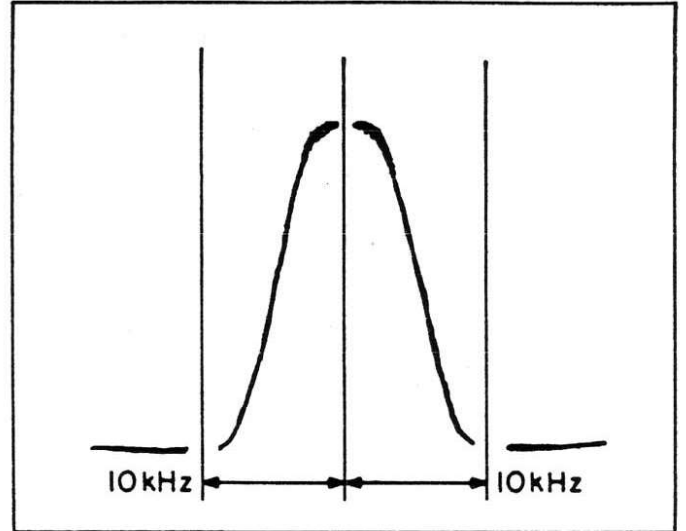

Figure 15.
- (5) Disconnect scope input and ground from AM RF board. Connect scope input to Test Point 306 (pin 3Q on AM/FM IF, MPX board). Connect scope ground to pin 3R.
- (6) Align top and bottom cores of Z301 and Z303 (on AM/FM IF, MPX board) for maximum gain and symmetry (see Figure 15).